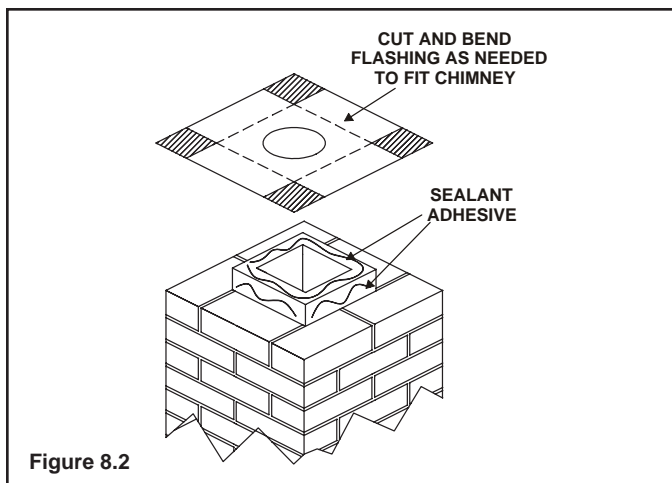

Figure 8.2
- Trim chimney top plate to minimize excess overhang or bend over flue tile (see Figure 8.2).
- Place 3/8 inch bead of 300° F silicone on flue tile top. See Figure 8.2.